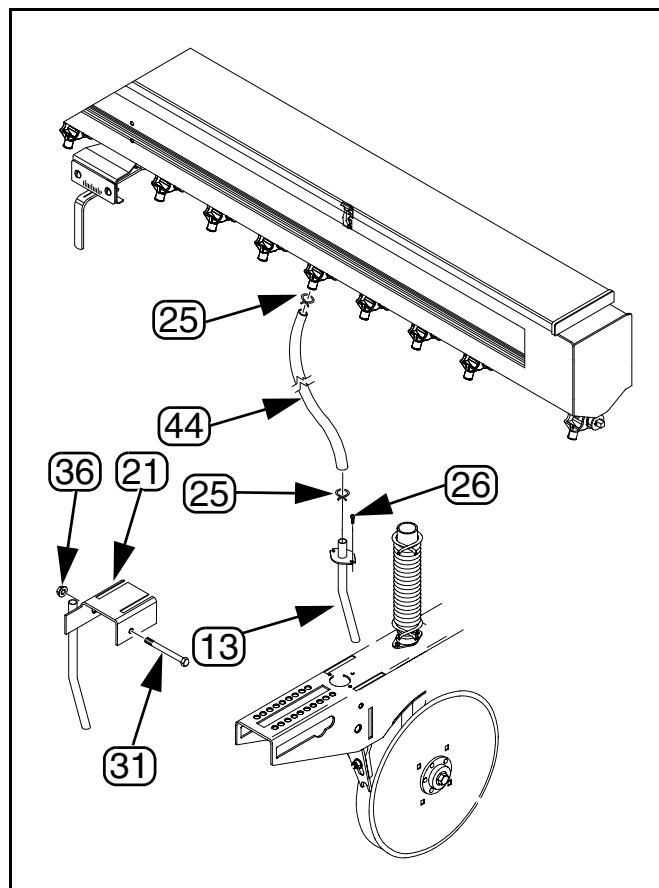

Figure 14
**Refer to Figure 14.**
1. Insert the seed tube (13) into the hole on the top of the opener. Secure in place with a 10-16 x 1/2 inch screw (26).
2. Slide a hose clamp (25) over the seed hose (44). Slide the end of the seed hose over the seed tube and secure seed hose in place with the hose clamp.
3. Slide another hose clamp (25) over the other end of the seed hose (44). Slide the seed hose over the seed outlet which corresponds with the appropriate opener. Secure seed hose in place with the hose clamp.
4. Set the side delivery (21) down over the top of the opener directly in front of the fertilizer tube. Line up the holes with the holes in the opener. Insert the 3/8-16x3-5/8 bolt (31) and secure bolt with a 3/8 inch lock nut (36).
5. Slide a hose clamp (25) over the hose (44). Slide the end of the hose over the seed tube on side delivery. Secure hose in place with the hose clamp.
6. Slide a hose clamp (25) over the other end of the hose. Slide the hose over the seed outlet which corresponds with the appropriate opener. Secure hose in place with the hose clamp.